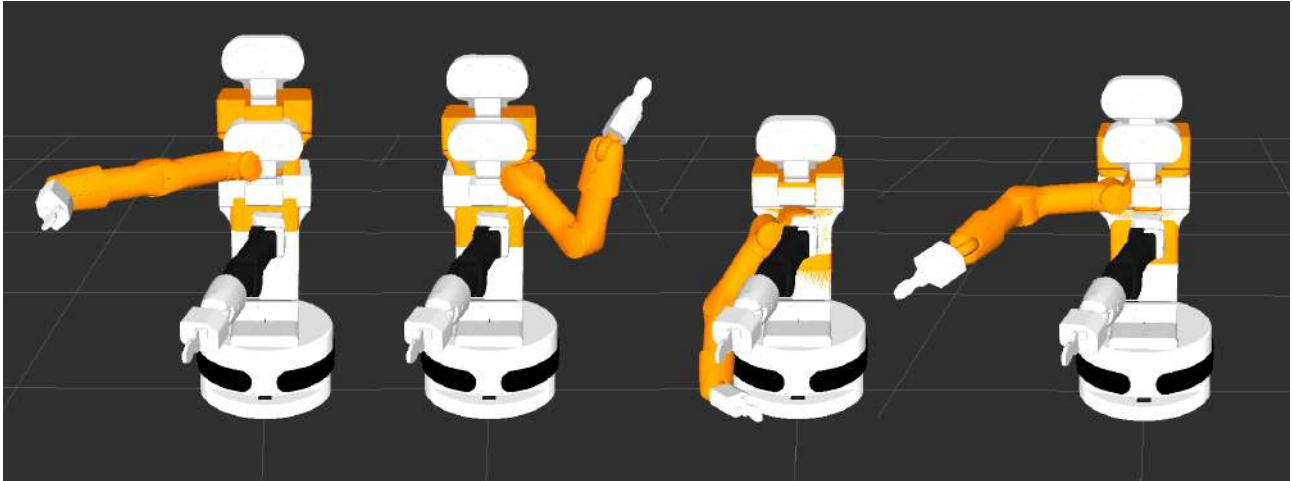

Figure 123: Random poses generated with the GUI
4. By clicking the “Update” button of the Goal State, new poses can be randomized. Figure 123 shows a few randomly generated poses.